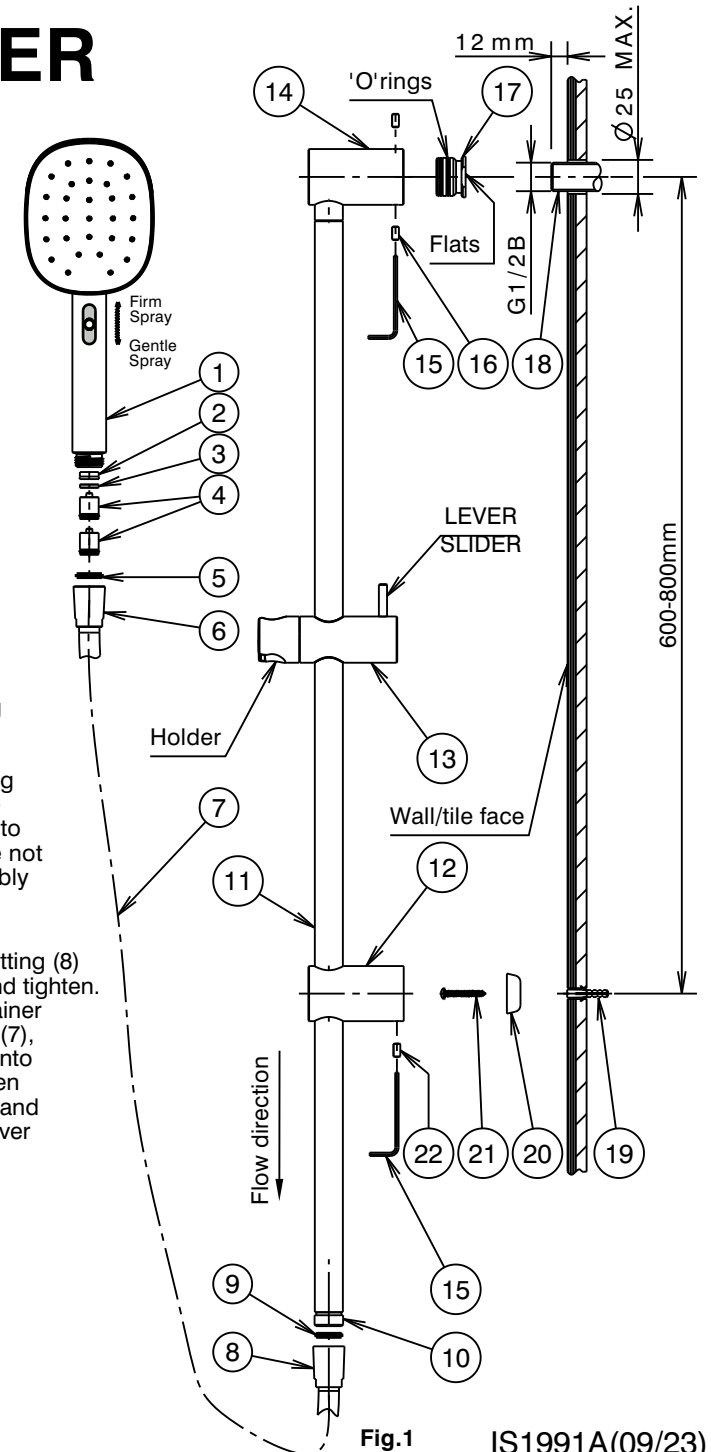

Fig.1
- 2) Screw adaptor (17) onto threaded nipple (18) until adaptor (17) is held securely against wall/tile face. DO NOT OVERTIGHTEN. Apply suitable lubricant to 'O'Rings on adaptor (17).
- 3) Mark the position for the shower rail mounting post (12) at a suitable distance from the threaded nipple (18). (Fig 1.)
- ii) Insert tapered end of wall plug (19) into drilled hole and tap until flush with surface.